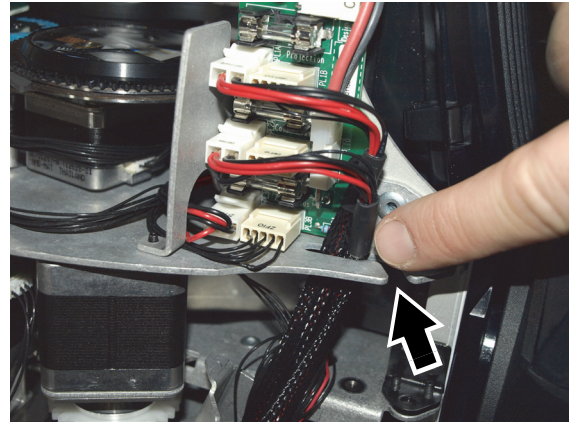

Figure 21: Module wireset routing
10. See Figure 21. Route the IBD module and color mixing module wiresets through the cutout in the head chassis (arrowed) as shown.